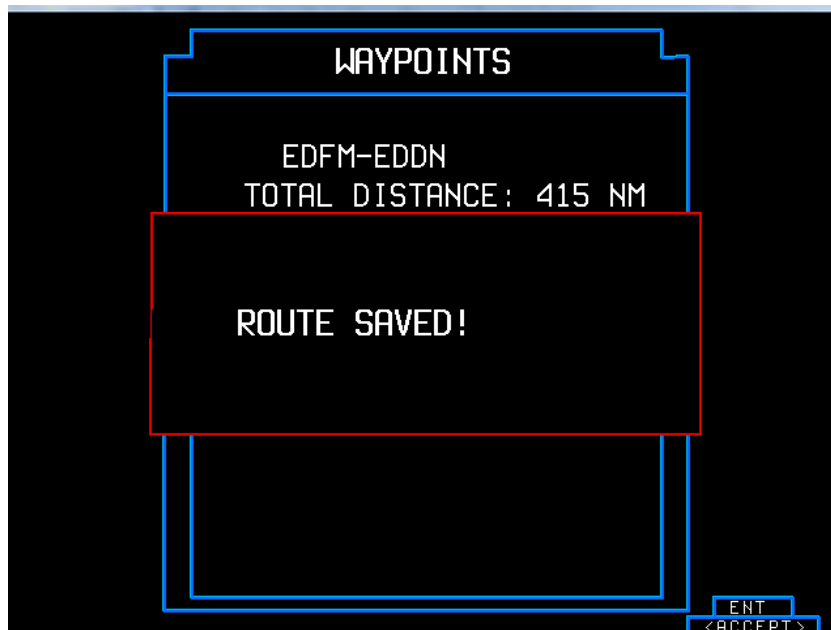

Figure 72: "RTE", "ROUTE SAVED!"
- With this function, the route can be stored on a plugged external storage medium (Figure 72).